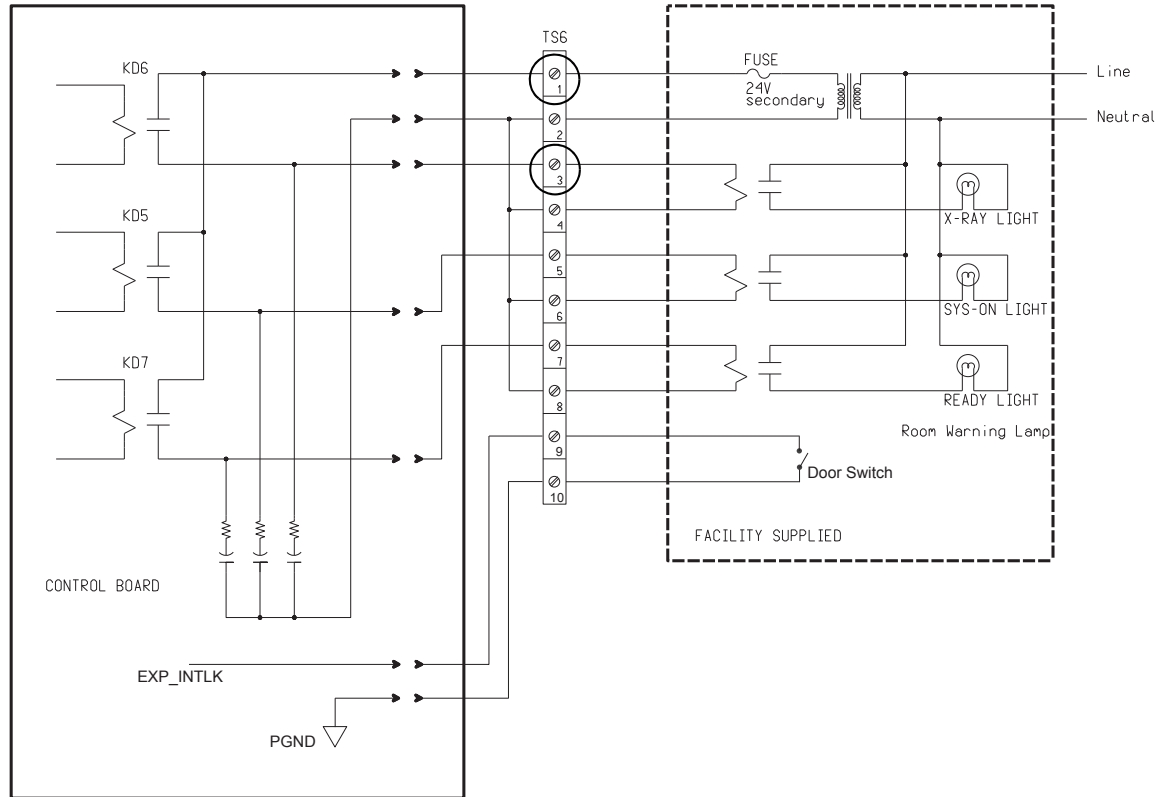

Figure 1-80 Typical TS6 Warning Light & Door Interlock Connections
- 2.) This step is site-specific. The PDU by default is configured for no external warning light connection. If you have external warning lights, see Figure 1-80 for proper connection.
It is recommended that you use the four (4) wire method of adding an x-ray warning light to a room, as shown in Figure 1-80. When using this method, you: